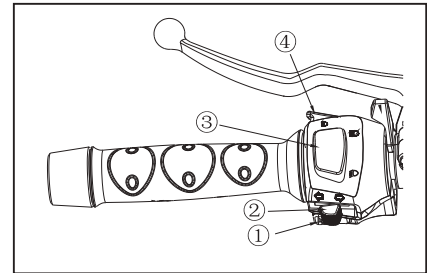

Figure 7 Left Handle Switch Set
(4) Left Handlebar Switch Set (Figure 7)
- ① Horn button
- ② Turn signal lamp switch
- ③ Headlight dimmer switch
- ④ Overtake light switch